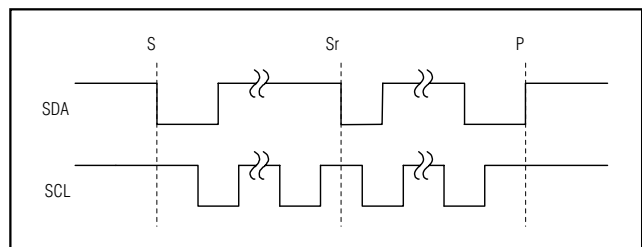

Figure 4. START and STOP Conditions
The master initiates a transmission with a START condition (S), which is a high-to-low transition on SDA while SCL is high. The master terminates a transmission with a STOP condition (P), which is a low-to-high transition on SDA while SCL is high (Figure 4). A repeated START condition (Sr) can be used in place of a STOP condition to leave the bus active and the mode unchanged (see the *HS I2C Mode* section).